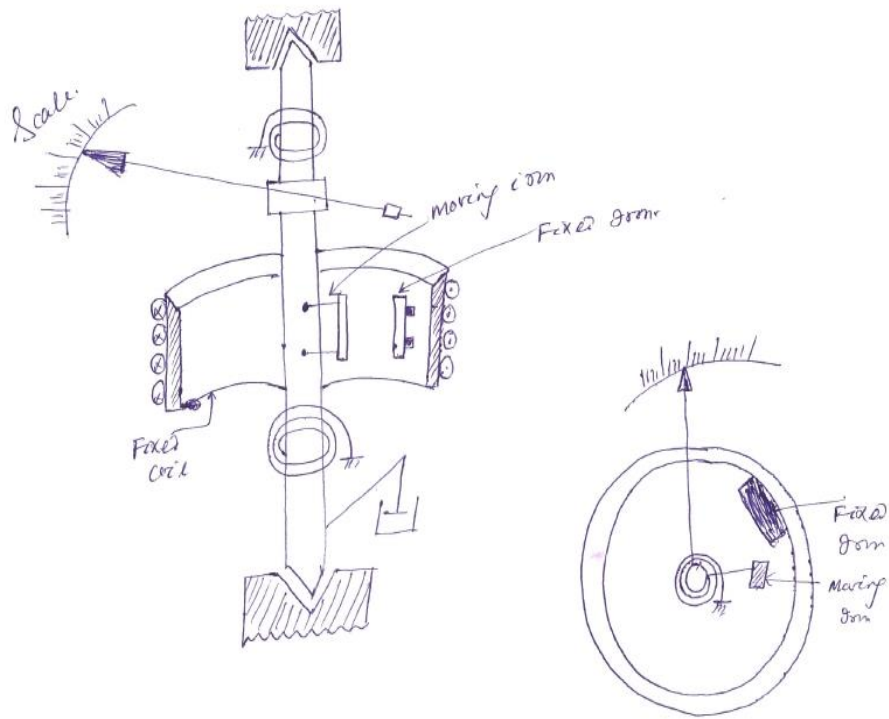

Fig. 1.12
**Construction:** The repulsion type instrument has a hollow fixed iron attached to it (Fig. 1.12). The moving iron is connected to the spindle. The pointer is also attached to the spindle in supported with jeweled bearing.